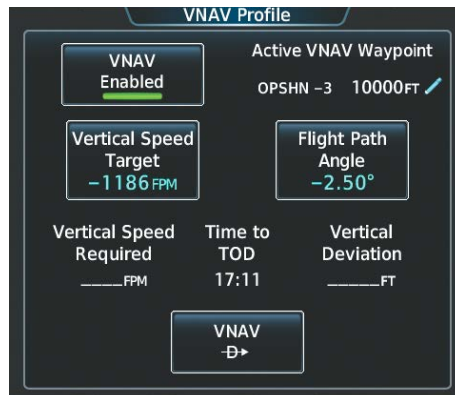

Figure 5-181 Adjusting the Descent
- a) From **Home**, touch **Flight Plan** > **VNAV** to display the VNAV Profile Screen as shown in Figure 5-181.